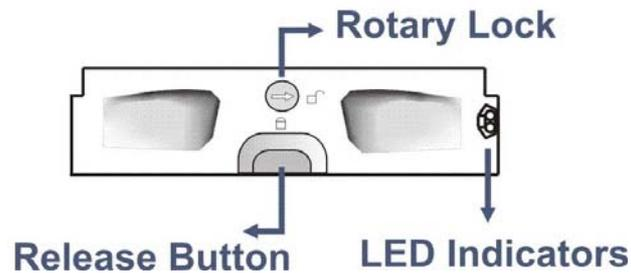

Figure 1-5: Drive Tray Front View
The S16F subsystem comes with sixteen (16) drive trays (see *Figure 1-5*) designed to accommodate separately purchased standard 1-inch pitch, 3.5-inch SAS/SATA disk drives. Two (2) LEDs on the drive tray's front bezel indicate drive status. A rotary bezel lock on each drive tray prevents unintentional ejection, and a convenient release button releases the drive tray from chassis.